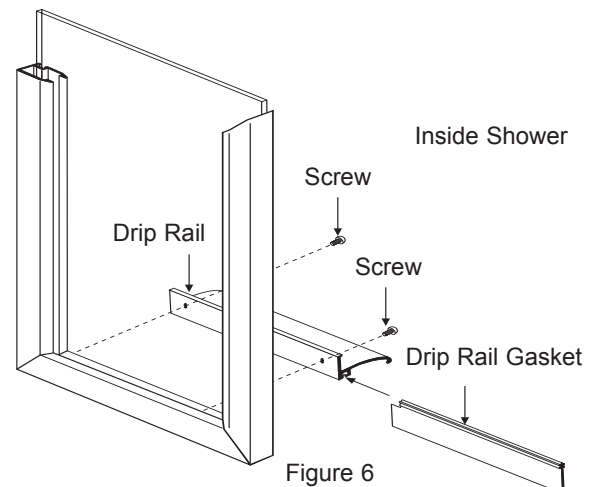

Figure 6
- E. Next, use the 7/64" Drill Bit and, using the pre-drilled holes, *carefully* drill two holes in the Bottom Rail (#6). Using the remaining two #6 x 1/4" "B"-Point Screws (#20), secure the Drip Rail (#11) with Drip Rail Gasket (#12) to the Door Panel (See Figure 6).